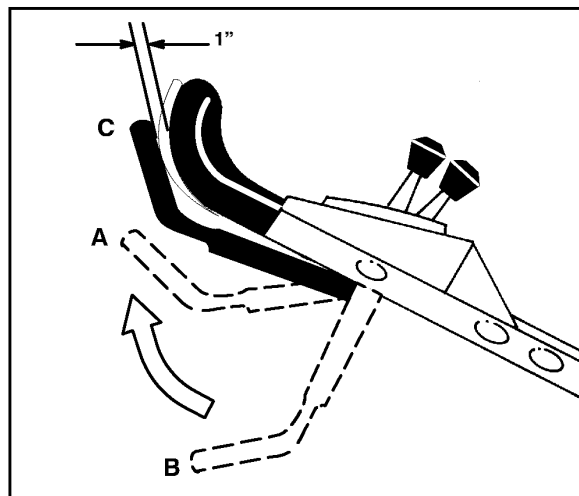

Figure 2
3. Lift the black control bar to the normal "blade engaged" position (about 1" below the handle cross bar) (Fig. 2, position C). The "fan" noise and inflation of the bag indicate that the mower blade is turning.
4. Release the control bar (Fig. 2, position A). A "bang" should be heard, the bag should deflate, and the blade should stop within 3 seconds. If the blade does not stop within 3 seconds when the control bar is released in this operational mode, stop using the mower and do not use it until you have it serviced by an Authorized TORO Service Dealer.